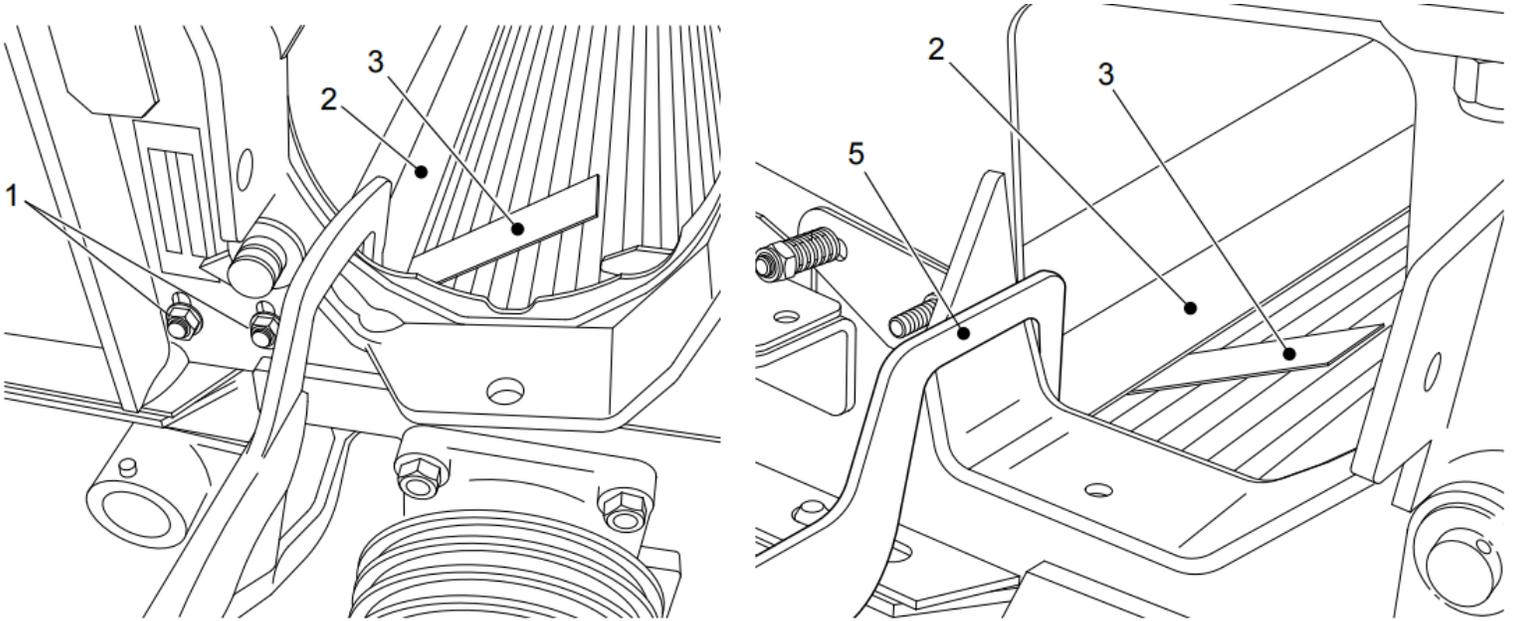
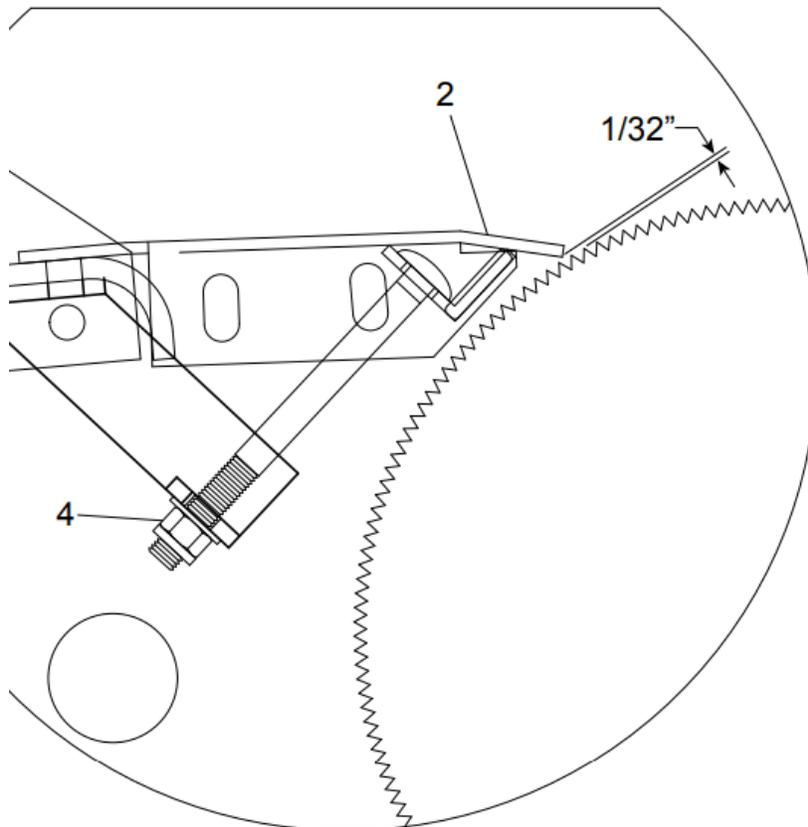

Figure 124 Processor roll adjustment
Figure 125 Processor roll adjustment
1. Hand tighten the two bolts on each side (item 1).
2. Insert a 1/32" spacer (item 3) at each end of the roll, between the roll and the half bottom (item 2).
3. Using a vise grip clamp (item 5 - Figure 125 Processor roll adjustment), lock the half bottom and roll together. Tighten the two bolts on each side properly (item 1 - Figure 124 Processor roll adjustment)
4. Using the three 5/16" X 4 1/2" lg carriage bolts (item 4), adjust to 1/32" the gap between the roll and the half bottom, over the entire width.